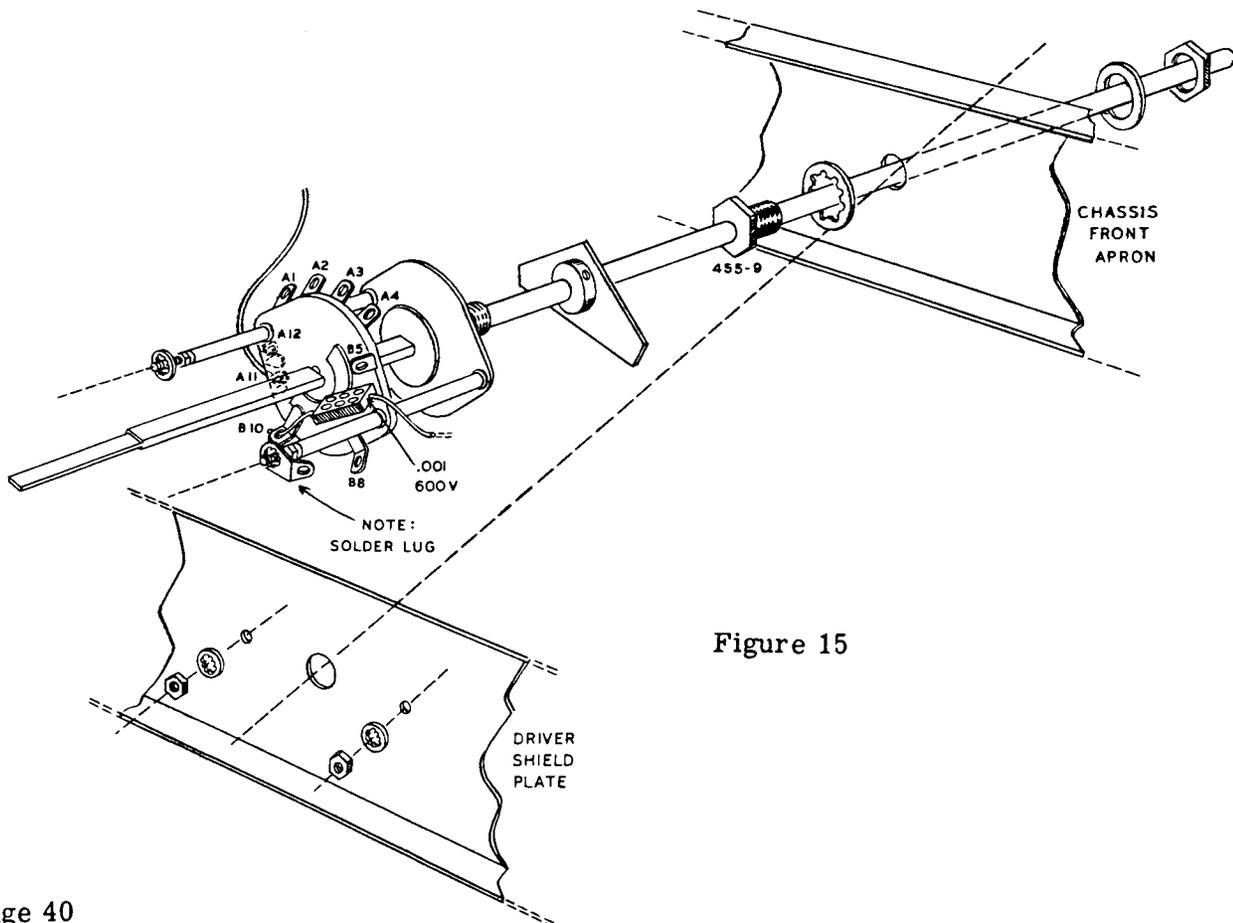

Figure 15
- ( ) Prepare the front section of the main bandswitch for mounting as follows: Rotate the switch shaft all the way clockwise as viewed from the front. Refer to Figure 15 on Page 40 to identify the terminal numbers on the switch. Remove the extra nuts from the switch mounting studs and lay them aside temporarily.
- ( ) Connect a heavy bare wire 2 5/8" long to switch terminal A11 (S). Form as shown and leave the other end free.
- ( ) Cut one lead of a .001  $\mu$ fd 600 volt mica capacitor to 5/8" and connect to terminal B10 (S). Leave the other end free. Position the capacitor as shown in Figure 15.
- ( ) Slide the hardware shown in Figure 15 onto the switch shaft and leave it loose.
- ( ) Now insert the switch shaft in the front chassis apron hole far enough that the rear shaft will drop into the hole in the driver shield plate. Carefully engage the rear switch rotors as the shaft is slipped down through the sections. The wafer of the front switch section should be oriented as in Figure 15.